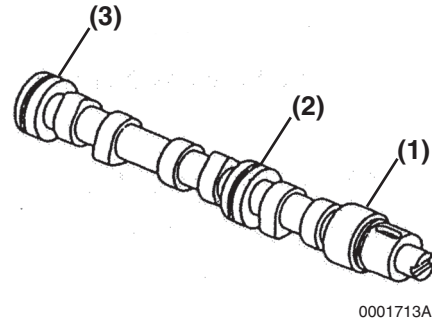

Figure 6-79
4. Measure the diameter of the gear end (Figure 6-79, (1)), intermediate (Figure 6-79, (2)), and flywheel end (Figure 6-79, (3)) bearing journals. Record the measurements. See Camshaft on page 6-7 for specifications.